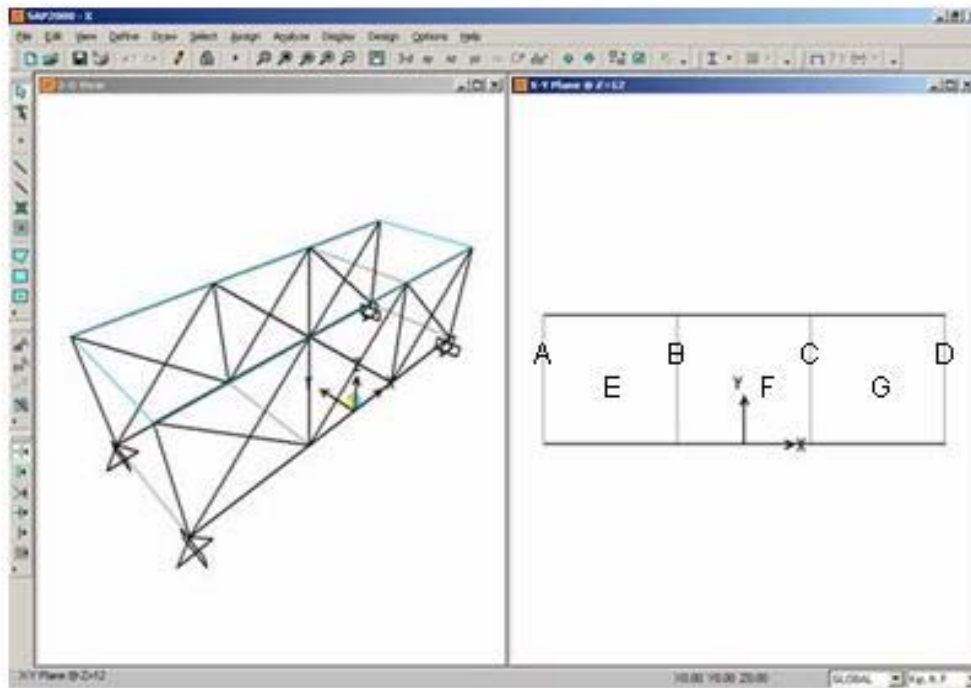

Figure X-1: View of Screen After Step 10
8. Click the **XY View** button  to change the view to an X-Y plan. Note that the title of the window changes to *X-Y Plane @ Z=12*. The screen appears as shown in Figure X-1.
10. Click on the grid lines at the points labeled "A," "B," "C" and "D" in Figure X-1 to enter four frame
13. Click on the points labeled “E,” “F” and “G” in Figure X-1 to enter three sets of diagonal frame objects spanning between the two vertical frames.